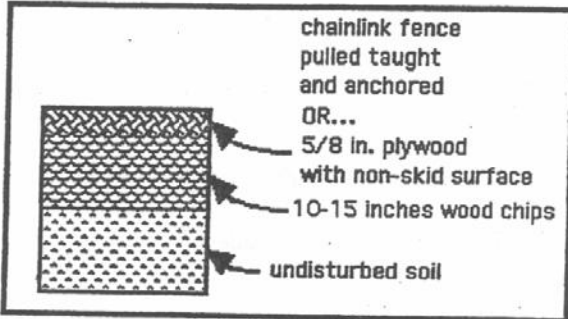

Figure 1
- In the woodchip and plywood or chainlink fence area shown in figure 1 below, spread 10-15" of wood chips by hand.